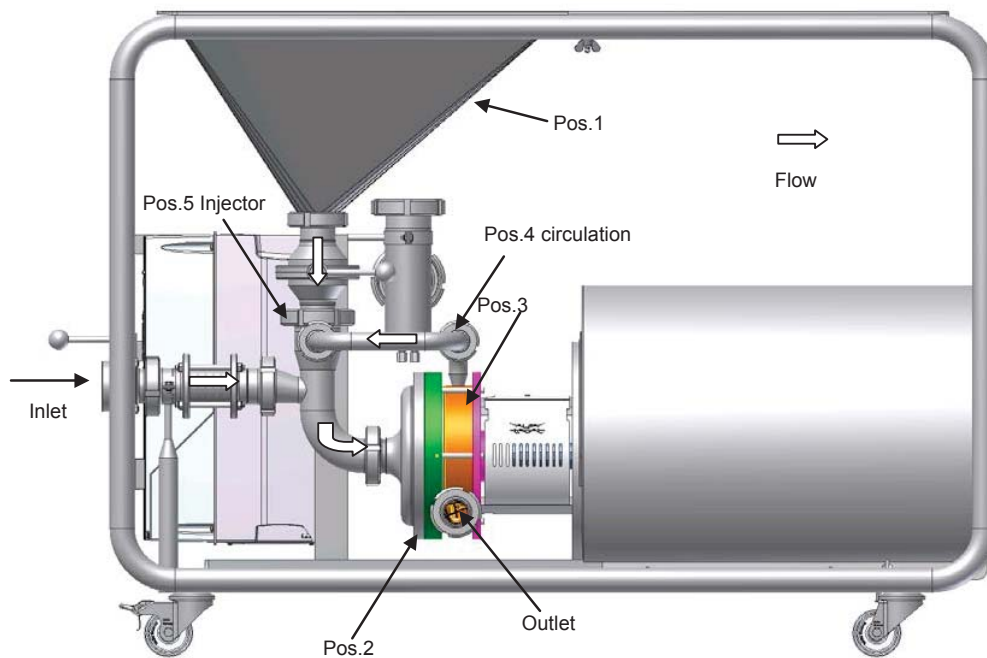
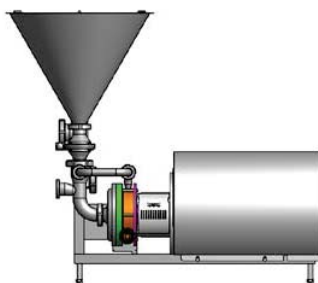

Figure 1
Figure 2
The powder to be mixed is delivered to the HPM via the funnel (item 1 in Figure 1) and homogenised or dispersed in the fluid flow with the aid of a rotor-stator system in the first stage (item 2 in Figure 1). In the second stage, the mixture is then discharged from the equipment with the aid of the impeller (item 3 in Figure 1). During this process, a product sub-flow is recirculated via a second (smaller) connection (item 4 in Figure 1). This sub-flow is introduced into the injector (item 5 in Figure 1). This generates a negative pressure at the funnel outlet, which in turn allows the powder to be drawn in. NOTE: The function is the same on the stationary HPM-S15 version shown on figure 2.